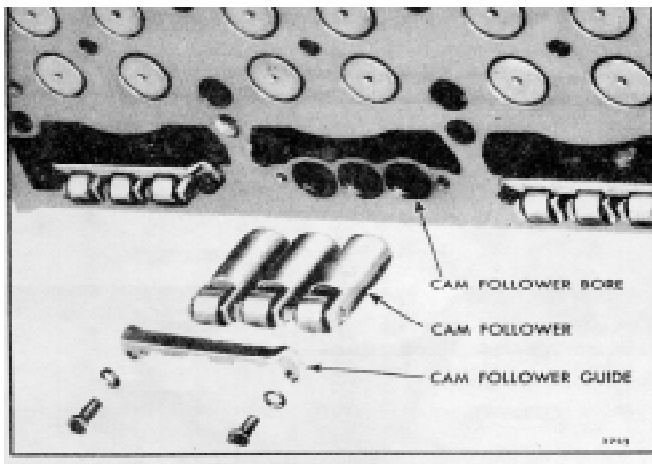

Fig. 4. Cam Followers and Guide.
1. Rest the cylinder head on its side (Fig. 4) and remove the cam follower guide.